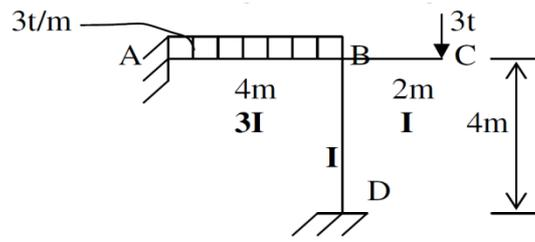

Fig.4
- b) A beam ABC supported on a column BD is loaded as shown in fig.4 Analyze the frame by slope deflection method and draw bending moment diagram. t = Tons.